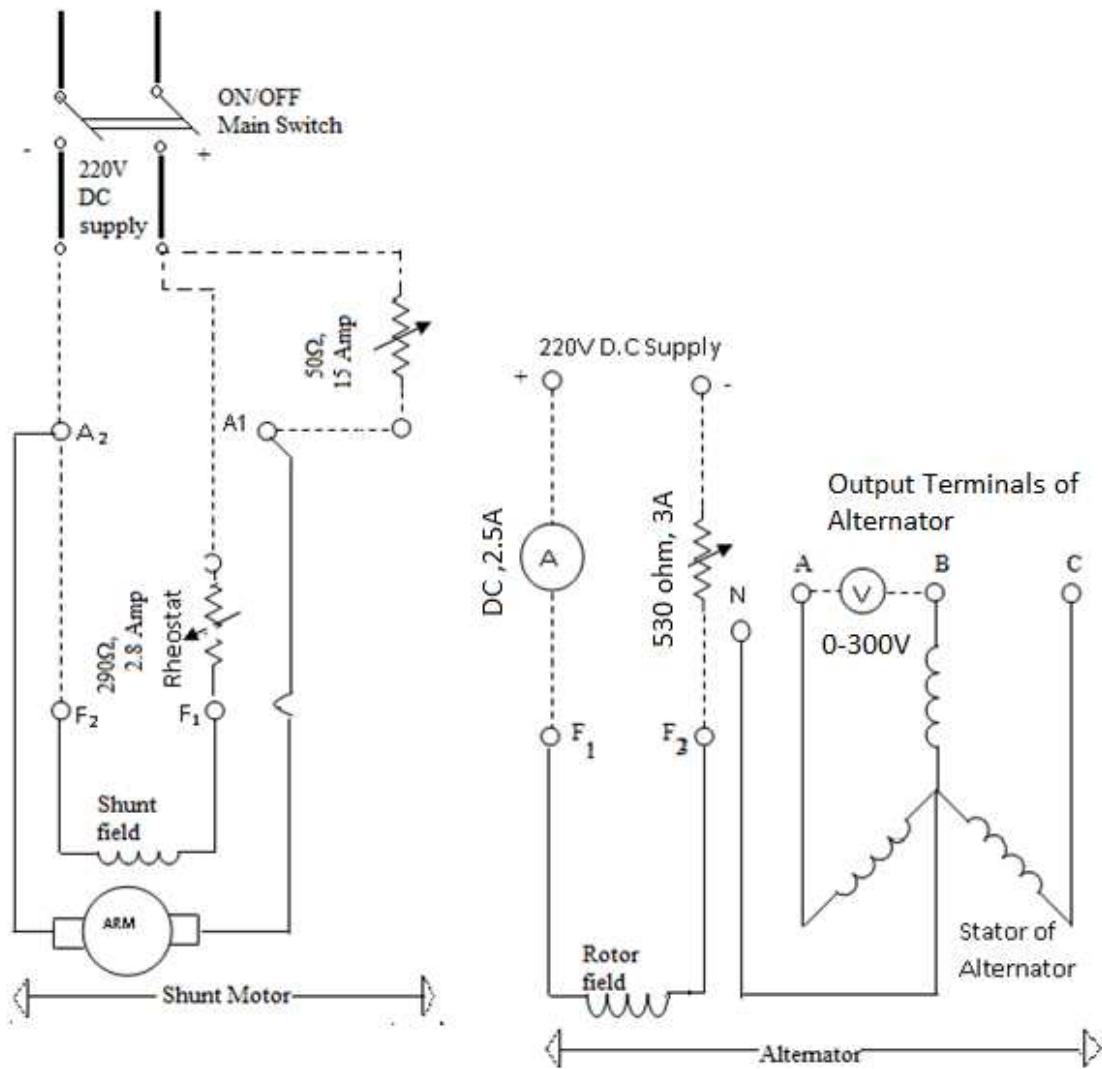

FIG 6.1 Circuit diagram of an alternator coupled with DC Shunt motor
Synchronous impedance Z_s can be determined by open and short circuit tests on the generator. The generator is run at its rated speed. Open circuit characteristic (OCC) of generator is the plot of its terminal voltage against field current. This is also called the magnetization characteristic of the machine. Short circuit characteristic (SCC) is the plot of generator short circuit current versus field current. See Fig. 6.1. The synchronous impedance magnitude, Z_s neglecting saturation is
2. Make suitable connections as shown in Fig. 6.1 and get them checked.